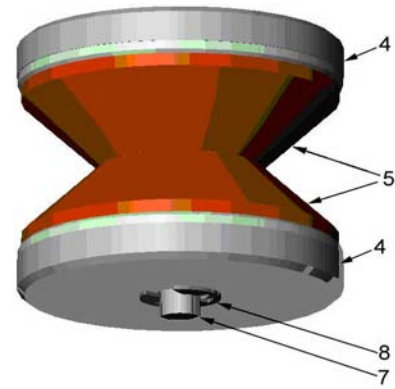

Figure 8
2.7 Secure the assemblies by installing an E-clip (item #8) over the end of the Booster Cartridge, see Figure 8. Remove any slack by tightening the location of the E-clip.